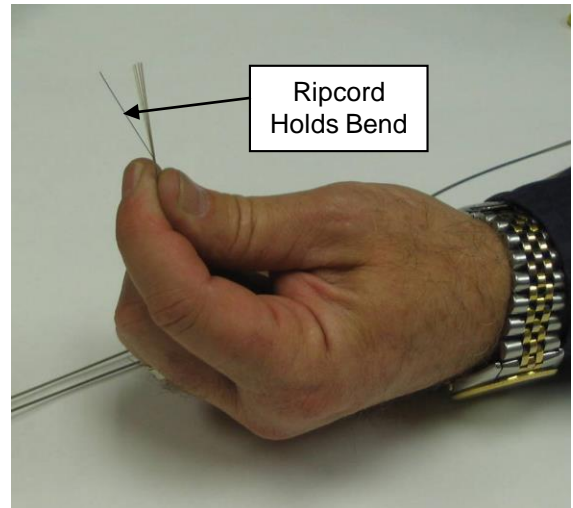

Figure 16
8.6.3 The glass strands will be straight while the Polyester ripcord will hold the bend making them much easier to see. **See Fig. 16.**